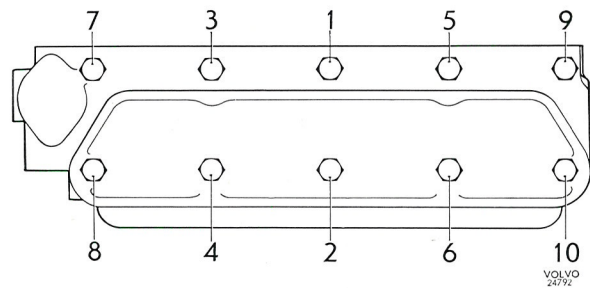
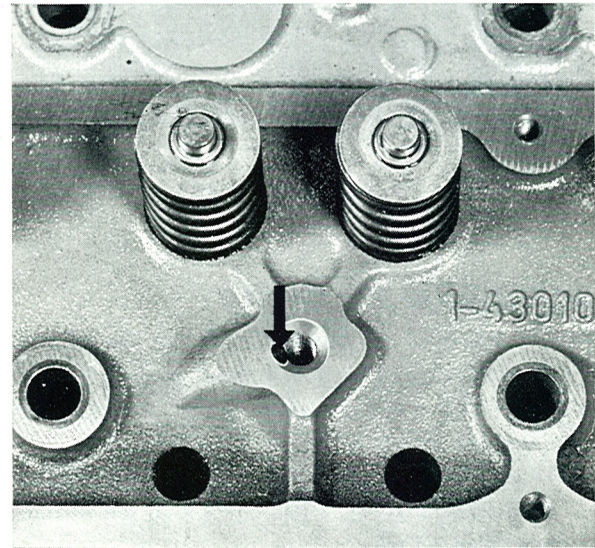
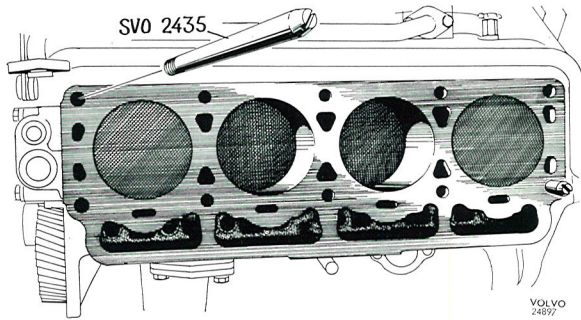

Fig. 2-23. Tightening sequence for cylinder head bolts
Fig. 2-24. Oil hole in cylinder head
Fig. 2-26. Guide pins for fitting the cylinder head
The cylinder head is fitted with the help of guide pins (SVO 2435). The bolts must be tightened in a certain sequence as shown in Fig. 2-23, in order to avoid unnecessary stresses. Check that the oil hole (Fig. 2-24) for lubricating the rocker arms is clear.
9. Fit the valves. Screw the guide pins SVO 2435 into the block, one in the front right-hand hole and the other in the left-hand rear hole, see Fig. 2-26. Install a new cylinder head gasket and new sealing rings for the water pump and fit the cylinder head. Screw out the guide pins and fit the bolts in these holes as well. For tightening sequence and tightening torques, see Fig. 2-23. The tightening torque is 8.5—9.5 kgm (60—70 lb.ft.). Fit the other parts. Fill up with coolant according to the instructions given under "Filling with coolant when the system has been emptied".
3. Screw down the guide pins SVO 2435, one in the front right and one in the rear left bolt hole, see Fig. 2-26. Fit a new cylinder head gasket and then fit the cylinder head. Note that the cylinder head gasket for the B 20 A engine is thicker than
- Tighten the bolts in the correct order and to the correct torque. See Fig. 2-23 and "Specifications".